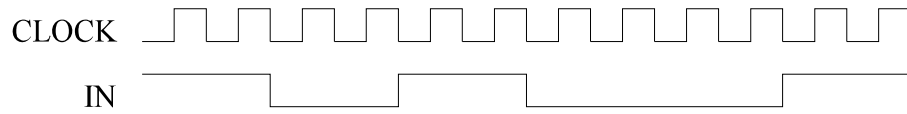

Figure 2
- (c) Complete the timing diagram shown in *Figure 2* by showing the state during each clock cycle and the waveform of OUT. The circuit is initially in state 2.